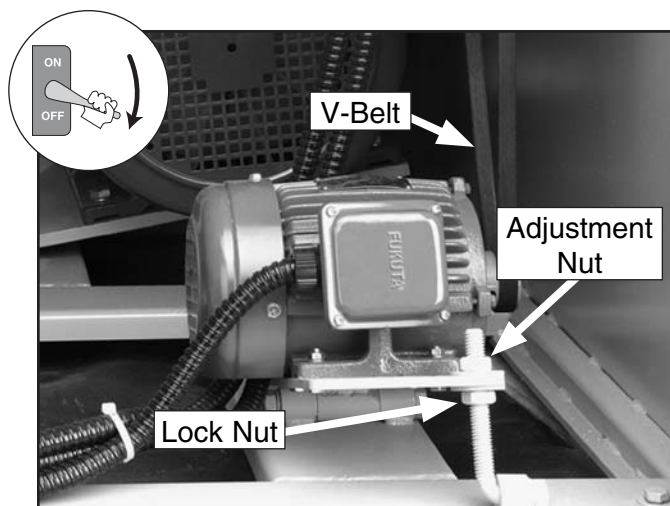

Figure 66. Table elevation motor V-belt.
2. Loosen the lock nut (see **Figure 66**).
3. Loosen the lock nut shown in **Figure 66** on **Page 50** enough to move the motor plate up and remove the table elevation V-belt from the motor pulley.